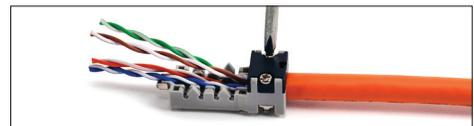

Figure 8
4.3 Remove the wiring diagram and fasten screws with a screwdriver. Make sure the cable is firmly secured and there are no gaps between the modules. (Figure 8)